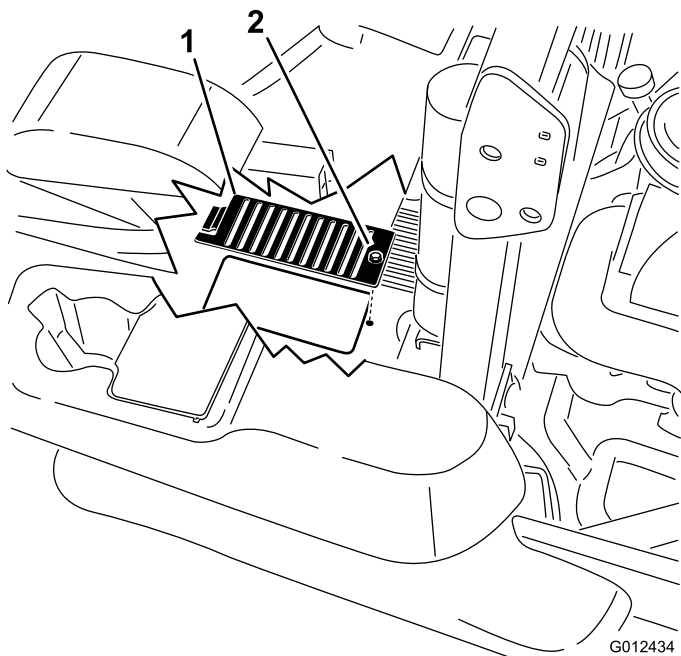

Figure 78
6. Over each dipstick, remove the cover and the bolt attached to the cover. Clean around each dipstick and hydraulic unit (Figure 78).